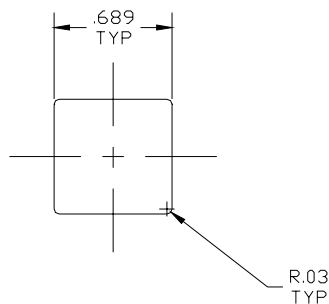

Figure 4 Typical Annunciated Switch Cutout
11. Cut a new hole using Figure 4 as guidance.
2. Cut a new hole using Figure 4 as guidance.